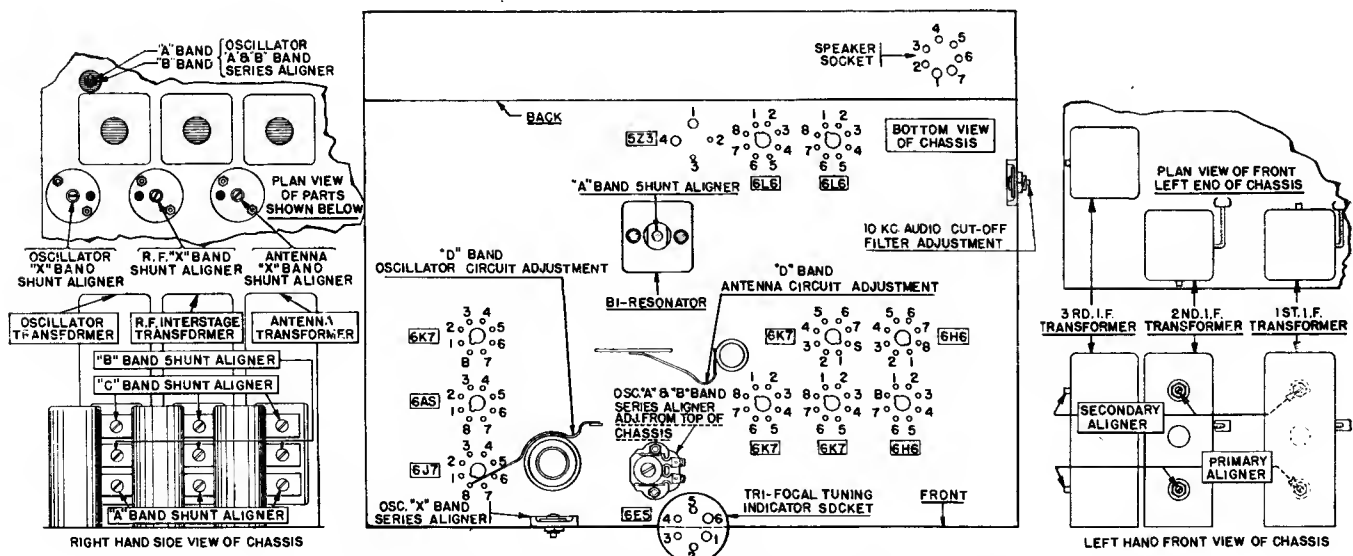

Fig. 1. Terminal Layout for Voltage Measurement Chart and Location of the Various Aligning Capacitors.
The various values of voltages listed in the following table are obtained by measuring between the various tube socket contacts and the chassis base, with the tubes in their respective sockets. The receiver is, therefore, in operation when the measurements are made. Figure 1 shows the terminal layout of the sockets with the proper terminal numbers.
Figure 1 shows the location of all the aligning capacitors used in this receiver.
1. The only adjustment which it is necessary to make for bringing the "D" Band Oscillator's circuit into alignment is accomplished by bending the ground loop (shown in Figure 1 as "D" Band Oscillator Circuit Adjustment) either closer to the coil or farther away from the coil. This adjustment should be made with the signal generator set to a frequency of 20 megacycles.
2. The only adjustment which it is necessary to make for bringing the "D" Band Antenna's Circuit into alignment is accomplished by bending the grid lead loop (shown in Figure 1 as "D" Band Antenna Circuit Adjustment) so as to form either a smaller or larger loop. This adjustment should also be made with the signal generator set to a frequency of 20 megacycles.